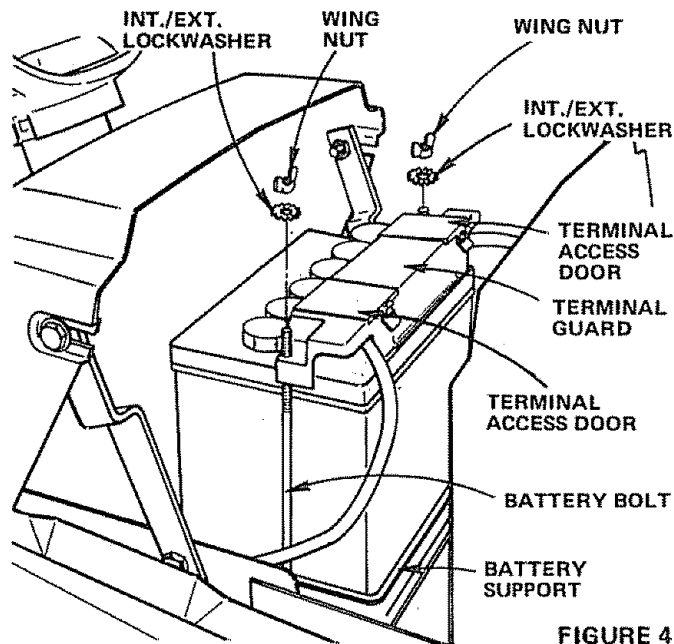

FIGURE 4
- Using the square hole on one side of the Battery Support (Fig. 4) insert one Battery Bolt, head of Bolt down. Fasten the Battery Bolt to the Terminal Guard using Int./Ext. Lockwasher and Wing Nut as shown in Fig. 4.
- Assemble the remaining Battery Bolt to other side of Battery Support and fasten Terminal Guard to it with remaining Int./Ext. Lockwasher and Wing Nut. Tighten Wing Nuts securely by hand (Fig. 4).
NOTE: USE TERMINAL ACCESS DOORS (FIG. 4) FOR: